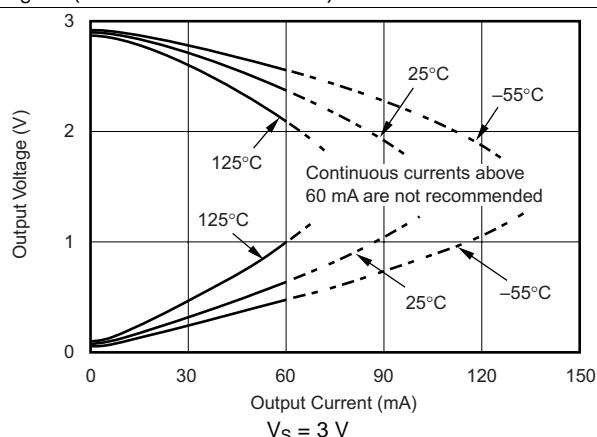

Figure 20. Output Voltage Swing vs Output Current
(1) Full range $T_A = -40^\circ\text{C}$ to 125°C .
(2) See Figure 20.
TI does not recommend running a continuous dc current in excess of ± 60 mA. See Figure 20 in the *Typical Characteristics* section.